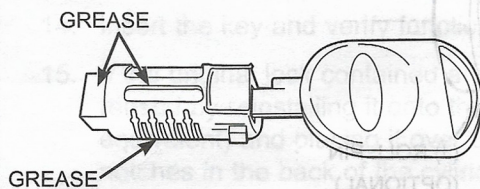

FIGURE 7
8. Insert the key into the keyhole and verify that all tumblers (B1-B5) are flush with the lock cylinder (D) exterior surface.
9. Apply grease to the outer surface of the cylinder (D) with the key still inserted, ensuring that the areas above and in between the tumblers are coated (refer to figure 7).
10. Align the key slot in the cylinder cap with the small internal slot in the case (E) subassembly by rotating the cap counterclockwise until the stop is reached and then rotating back about 5 degrees clockwise. This should be visually verified by looking into the back of the cylinder.
11. Insert the cylinder (D) into the back of the case (E). Push each (raised) tumbler (B1-B5) to make it flush with the cylinder (D) OD to allow the cylinder to fit into the case (E). Continue this process until the cylinder (D) engages the cylinder cap. This step may require slight rotation of the cylinder cap (with key) to align the cap and the cylinder (D).
12. Using the tail of the lock, rotate the cylinder (D) and cylinder cap clockwise in case (E) until you hear the tumblers (B1-B5) drop into the tumbler slots.